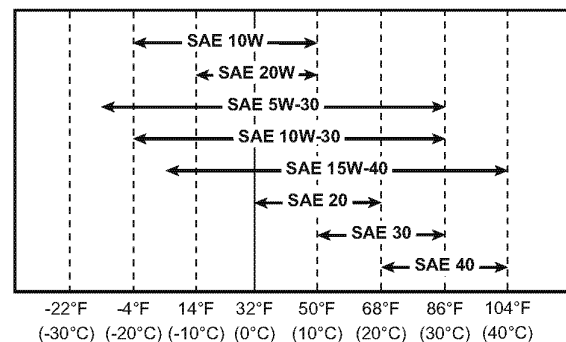

Figure 2
- Select the oil viscosity based on the ambient temperature where the engine is being operated. See the SAE service grade viscosity chart (Figure 2).
Select the appropriate engine lubricating oil viscosity based on the ambient temperature and use the SAE service grade viscosity chart in Figure 2.